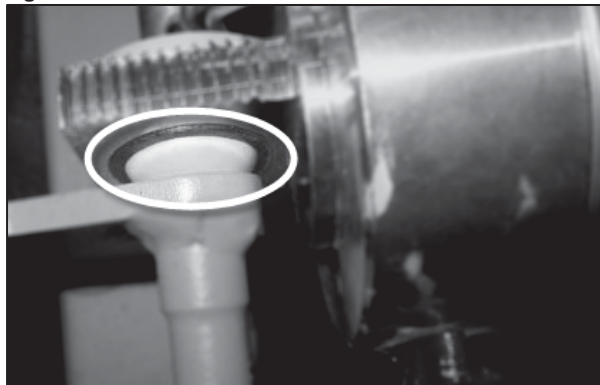

Figure 6
- 4) Inspect the cylinder bushing for any signs of looseness or damage. Replace with #642228 if required. (Fig. 6)